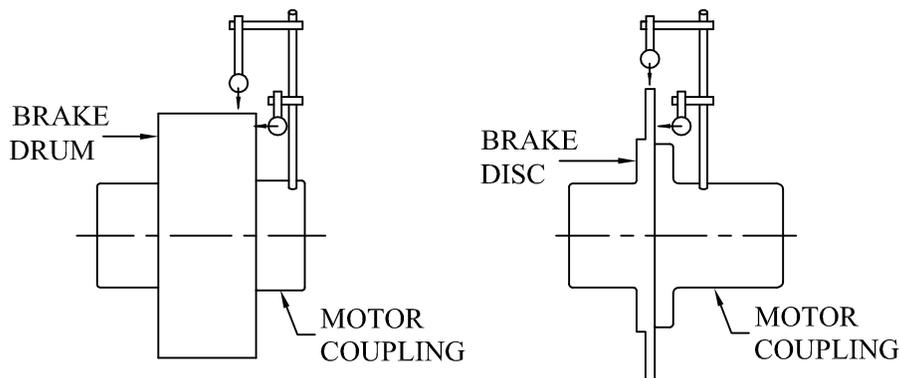

FIG. 1-
7. The motor is again put onto the base pads. Install two (2) 5/16" tram rods (approximately 7" long) into the motor coupling (180° apart). Put two (2) 90° Starrett Model #196 indicators on one (1) tramming rod with one against the face of the brake drum or disc, and the other on the O.D. of the brake drum or disc. See Fig. 1 for indicator positioning.